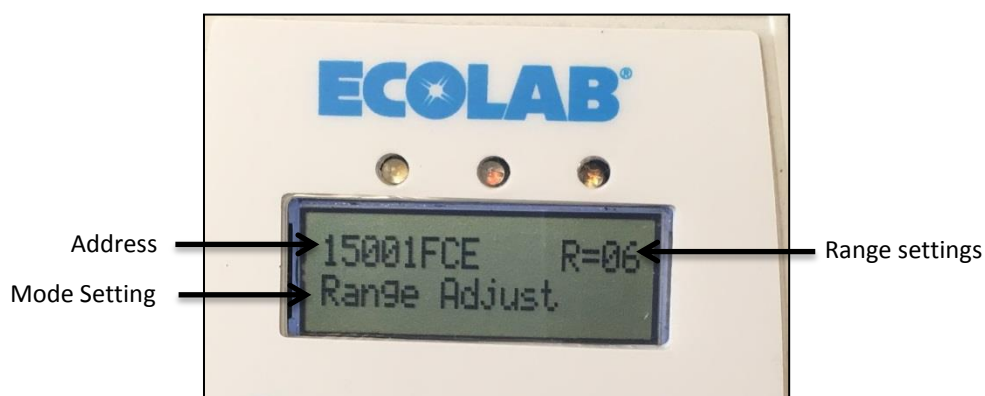

Figure 3. Installation Tool screen
1. With the NEXA HHCM TOUCH FREE DISPENSER BEACON (COMPACT) installed in the dispenser, hold the Installation Tool within 10 inches of the dispenser and select mode "Range Adjust" (Refer to Ecolab Beacon Installation Tool Users Guide). Activate the dispenser (*i.e.*, dispense product) to establish communication between the NEXA HHCM TOUCH FREE DISPENSER BEACON (COMPACT) and the Installation Tool. Note: both yellow and red LED on the Installation Tool will flash when it has successfully communicated with the NEXA HHCM TOUCH FREE DISPENSER BEACON (COMPACT). The NEXA HHCM TOUCH FREE DISPENSER BEACON (COMPACT) address (device ID number) and its current range setting should be displayed on the Installation Tool screen (See Figure 3).
2. To adjust the communication range, press the UP ↑ (increase) or Down ↓ (decrease) key on the Installation Tool until the desired range setting is displayed, then press the "Select" button. An audible confirmation from the Installation Tool should be heard. Activate the dispenser to complete the update to the range setting on NEXA HHCM TOUCH FREE DISPENSER BEACON (COMPACT). Note: The LED on the dispenser will flash two (2) times when the range setting has successfully updated.